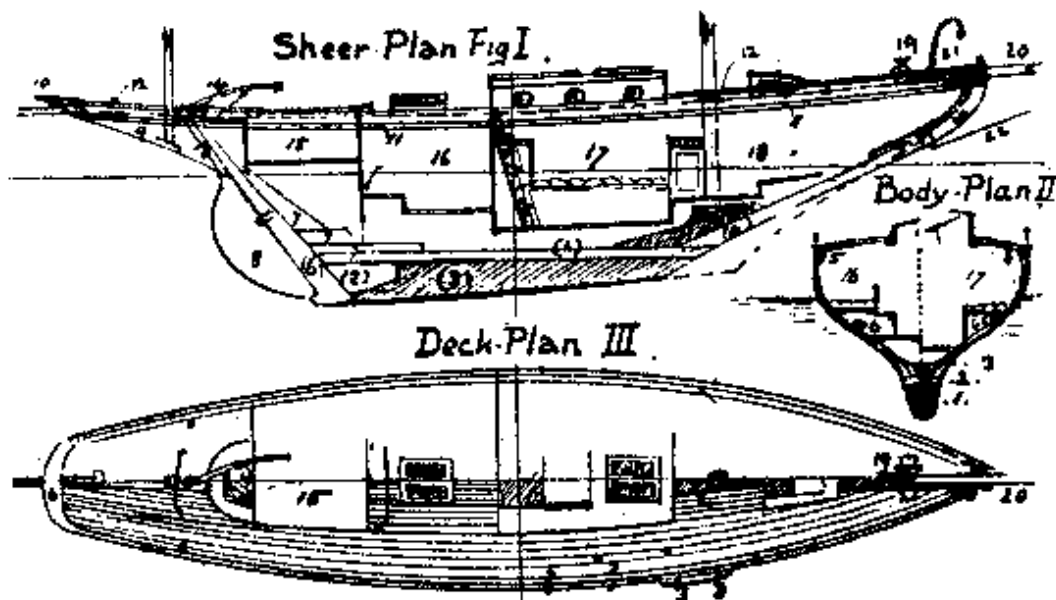

Fig. 2.
Here is an outline sketch of a “yacht,” and though they all differ in size, design, and mode of fitting, the several parts go under the same names. Yachts, like any other vessels, are built from drawings, which are drawn to any convenient scale, such - as 1 inch representing 1 foot of real size. Generally for building the scale drawing is “laid off” on a floor at full size, so that the workmen can measure off any item for actual building, at actual size. For that you would measure the part of the drawing wanted—say breadth on Fig. 2 you find 10 eights; therefore, 10 feet. You use a scale of 12 inches divided into 96 divisions of $\frac{1}{8}$ inch, and each division cut into six parts—of course, $\frac{1}{8}$ is a very small scale, but does for a sketch.
The carvel build has the plank laid edge to edge flush, and the edge of each plank is rivet nailed from outside through the frame or timber (shaded, see' fig. 3) between the plank edges there is usually "caulking" that is cotton driven in, or may be a cotton string sunk into a groove in the plank edge, put in while building. Another form is ribbon-carvel (fig. 2) where the planks meet flush, edge to edge, and a ribbon
Fig. 1 shows a solid gunwale, and a covering board, at top of the planking. The timber is sawn to fit the lap of the planking. In fig. 2 the frame would be sawn to fit over the ribbons and to lie against the plank. In fig. 3 the frame may be “steam bent” and lie against the inside of the plank. Planking is commonly called skin. Fig. 3 shows an “inwale” (1) for gunwale fastening, and there would be a “cap” on top (2).